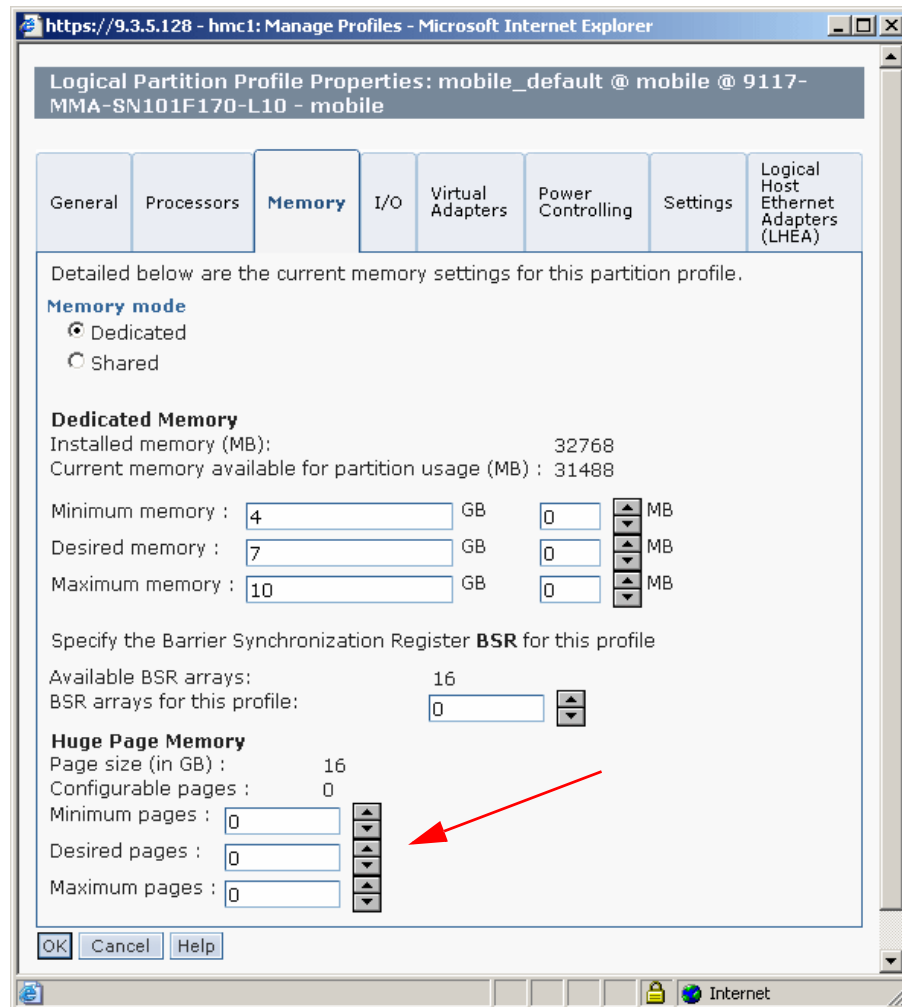

Figure 17-18 Setting Huge Page Memory to zero
6. Enter 0 in the field for desired huge page memory; click **OK** (Figure 17-18).